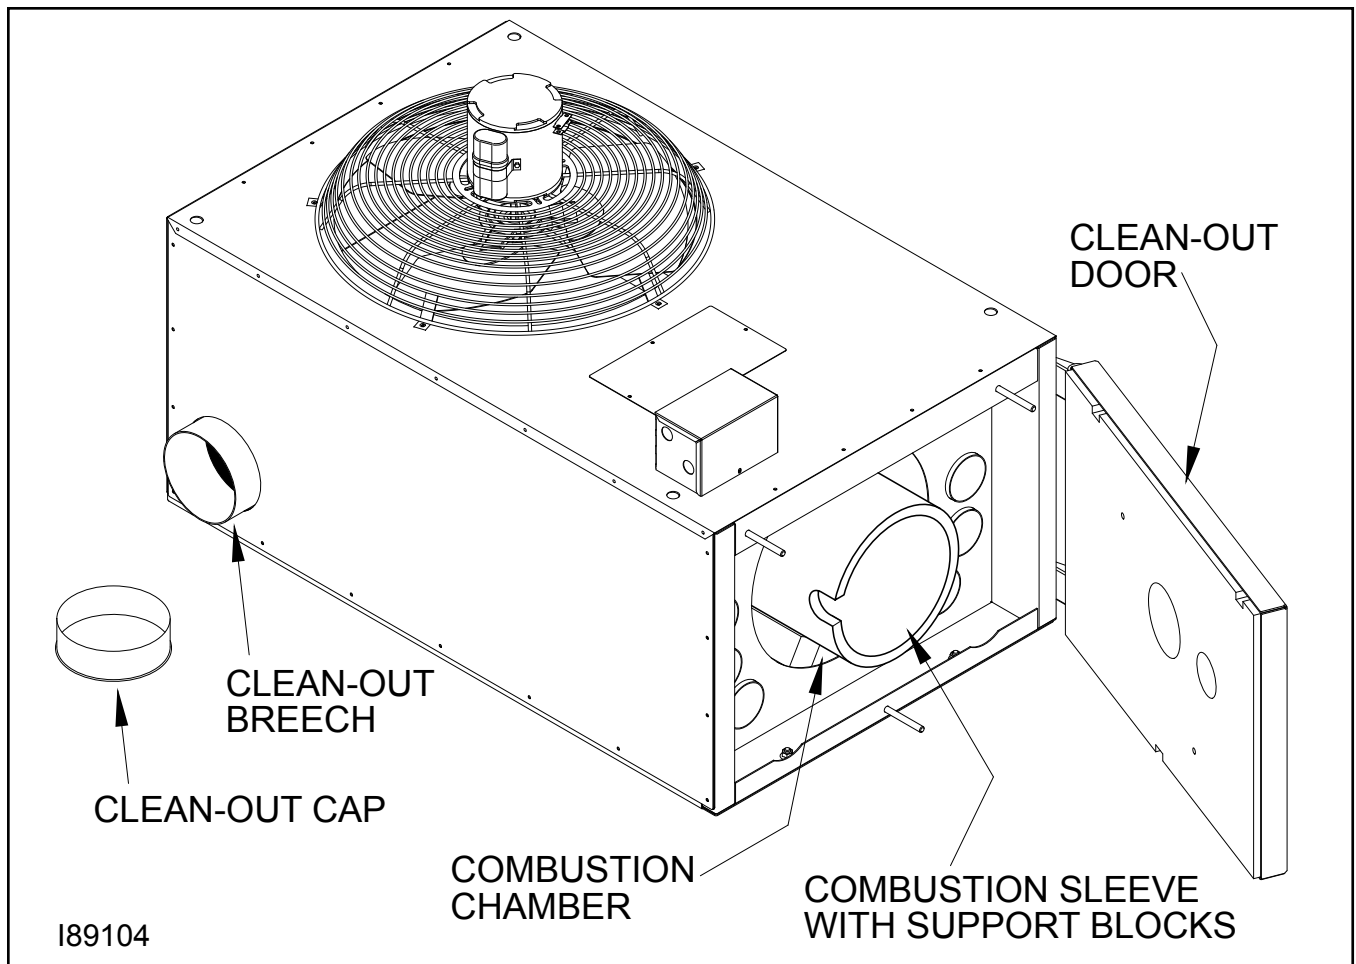

Figure 9D - Accessing the Combustion Chamber for Cleaning
3. Clean the ash from the combustion chamber (see Figure 9D):